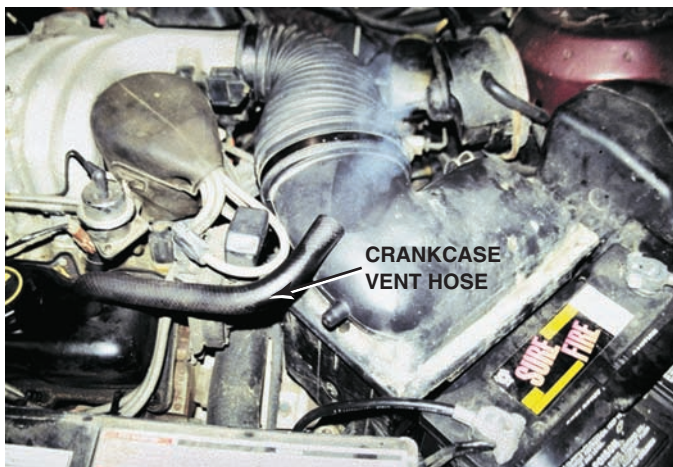

FIGURE 22-1 Blowby gases coming out of the crankcase vent hose. Excessive amounts of combustion gases flow past the piston rings and into the crankcase.
- Smoke from the engine or exhaust ● **SEE FIGURE 22-1.**